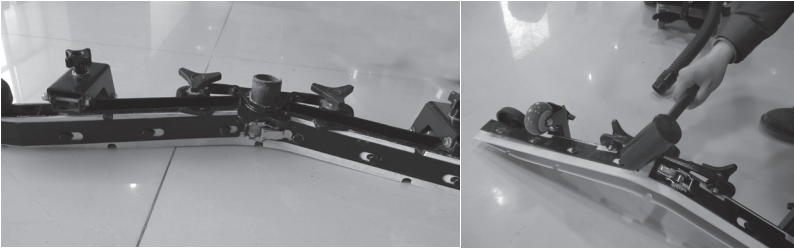

Figure 39
1. Remove squeegee assembly from the machine (Figure 39).